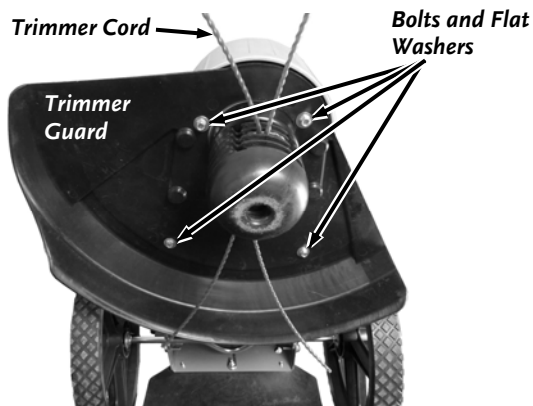

Figure 19
3. Remove the four Trimmer Guard Bolts and Flat Washers with a 3/8" Wrench. Remove the Trimmer Guard (**Figure 19**).